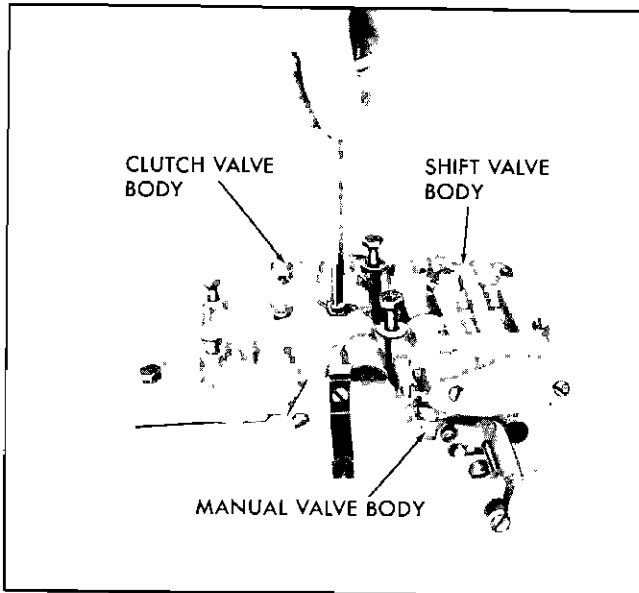

Fig. 141 Tightening Shift Valve and Clutch Valve Body Attaching Screws
7. Use the five valve body to case attaching bolts as guides through valve bodies and tighten the shift valve and clutch valve body attaching screws (five screws) (Fig. 141).
4. Place installer in seal and drive seal into place (Fig. 141).